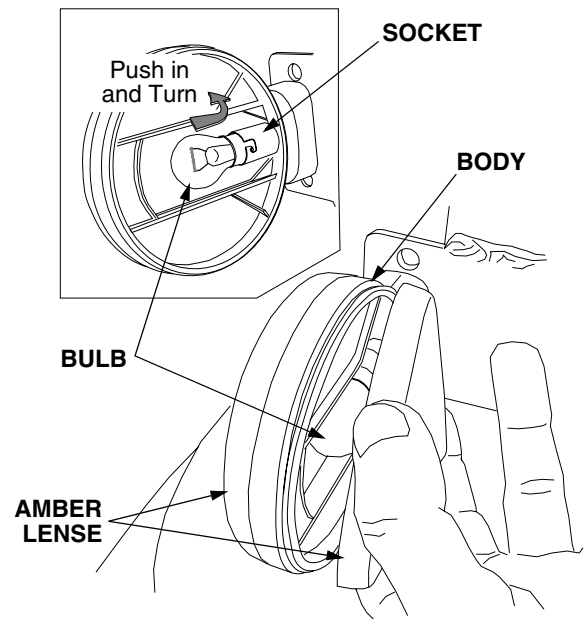

Figure 37
- Insert a **thin** bladed screwdriver, or similar tool, between an amber lense and the hazard light body, then twist to separate the lense from the body. Refer to Figure 37.
- Push the bulb inward and turn counterclockwise, then pull the bulb outward to remove from the light socket. See Figure 37.